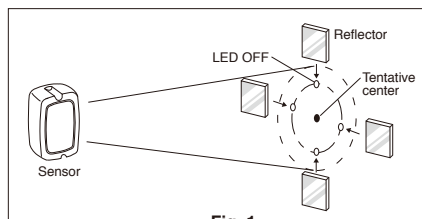

Fig. 1
- If the operation LED lights up, check the position where it goes off while moving reflector slowly vertically and horizontally by sliding for positioning tentative center of coverage. \* (Fig 1.) Move the reflector as slowly as possible because it takes approx. 1.5 sec at least till operation LED goes off though the reflector comes in coverage. If moving is too fast, the PR-5B will not have time to rest and operation LED will not go off.